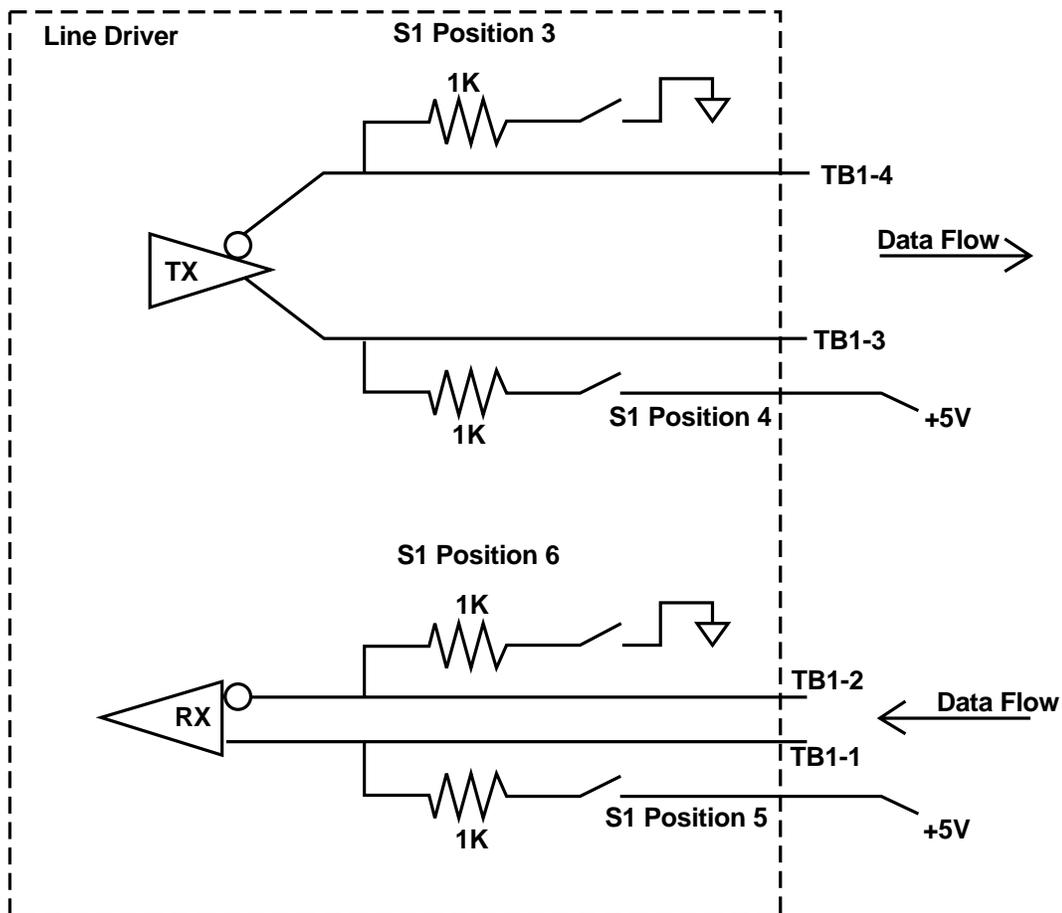

Figure 4-1. Biased/Failsafe Operation Switches (RS-485).
For example, say you have an RS-485 network in an idle condition with all nodes in the receive mode. Since the drivers are tri-stated, the line voltage could be either positive or negative—there's no way to know for sure. If the voltage level at the TB1-2 and TB1-1 inputs is less than 200mV, the logic level at the output of the RX will be the last bit received. To force the line into an idle condition, you'd need to set the switch S1, Position 5 and 6, which will add resistors. Refer to Figure 4-1.
- Biased, Failsafe Operation (S1, positions 3 through 6).** S1 positions 3 through 6, when in the 1 or ON position, switch in a 1K pull-up resistor to the A input/output and a 1K pull-down to the B input/output (see Figure 4-1). 0 is the OFF position.